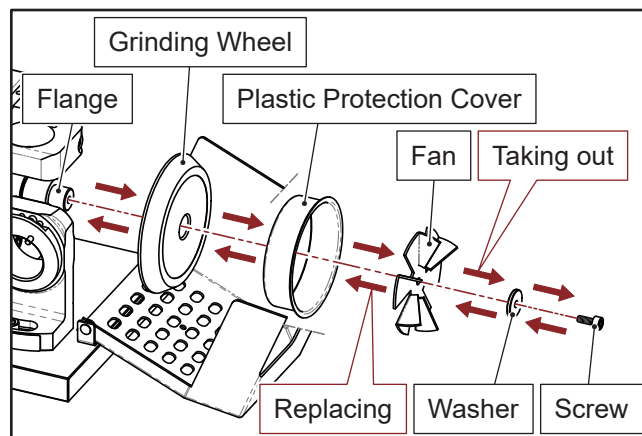

Fig. 13-3
④ Loosen the screw from the grinding wheel to take off the grinding wheel. (Fig. 13-3)
⑤ Use clean cloth to clean the flange and the contact surface of the grinding wheel.
⑥ Replace the new grinding wheel and fasten the screw. (Fig. 13-3)